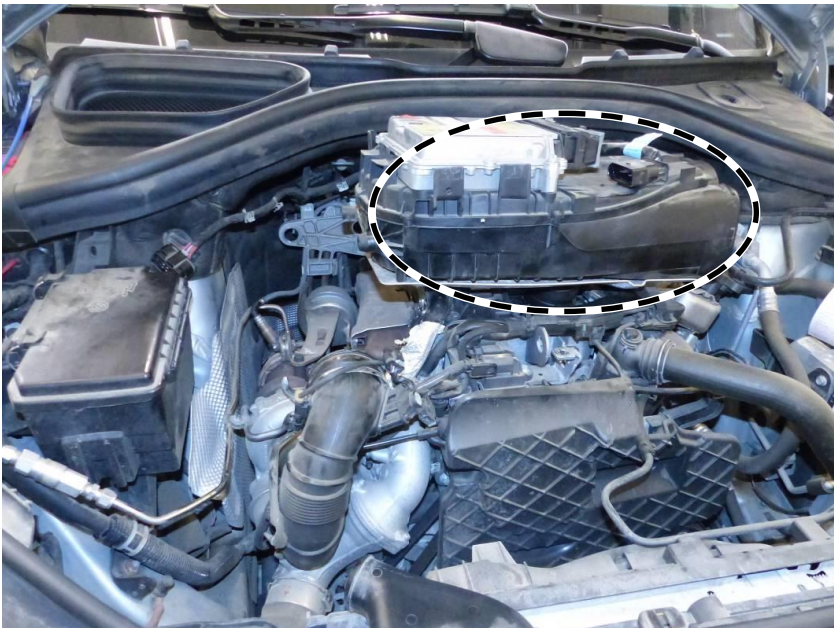

Figure 2
3. Release air filter housing together with control unit and place on the engine with connected lines (**Figure 2**).